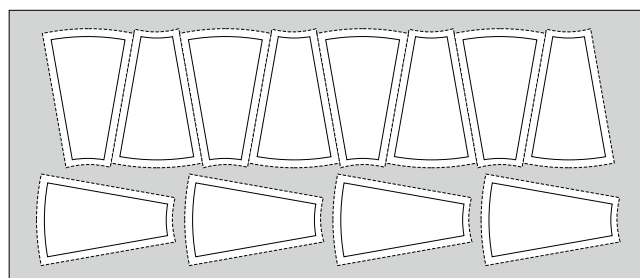

fig 1
2. Following the cutting lists in the fabric requirements table, cut out the full fans and the fan blades from the Michiko print and linen texture fabrics. Where twelve fan blades are to be cut from one F8th, see fig 1 for cutting layout.